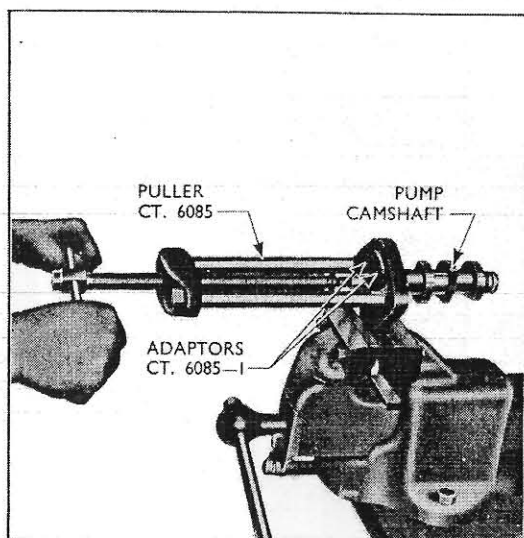

Fig. 18.
16. Remove the ball bearing cages from each end of the camshaft, these are easily pulled off by hand, then use the special puller (Tool No. CT.6085) and adaptors (Tool No. CT.6085-1) to remove the inner races (see Fig. 18).